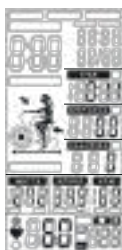

Figure 47
- ④ When Heart Rate goes below to 65%, 65% & 85% value will flash. And buzzer sounds in every 10s until user HR achieve above 65% (Figure 47).